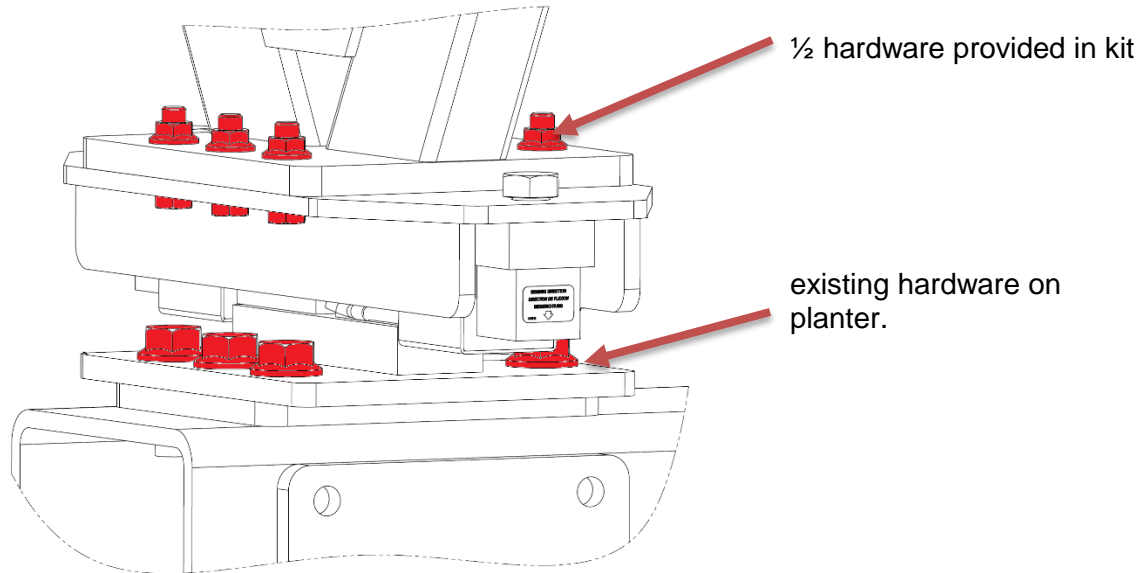

Fig. 10
15. Slowly lower the hopper to the load cell assembly, aligning it with a pry bar if necessary for bolt hole alignment. Bolt the hopper to the load cell assembly utilizing the ½" X 1 ¾" bolts with associated flange nuts. Refer to figure 10.